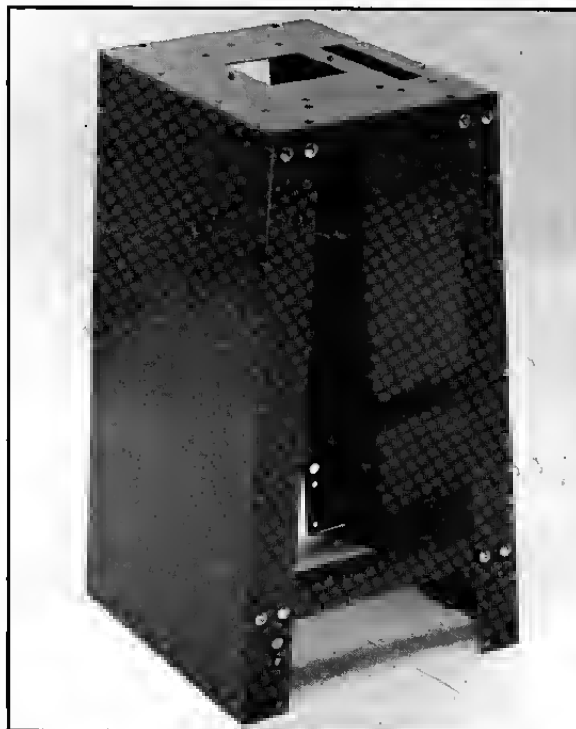

Fig. 4
4. Fig. 4, illustrates the 50-518 Stand assembled.